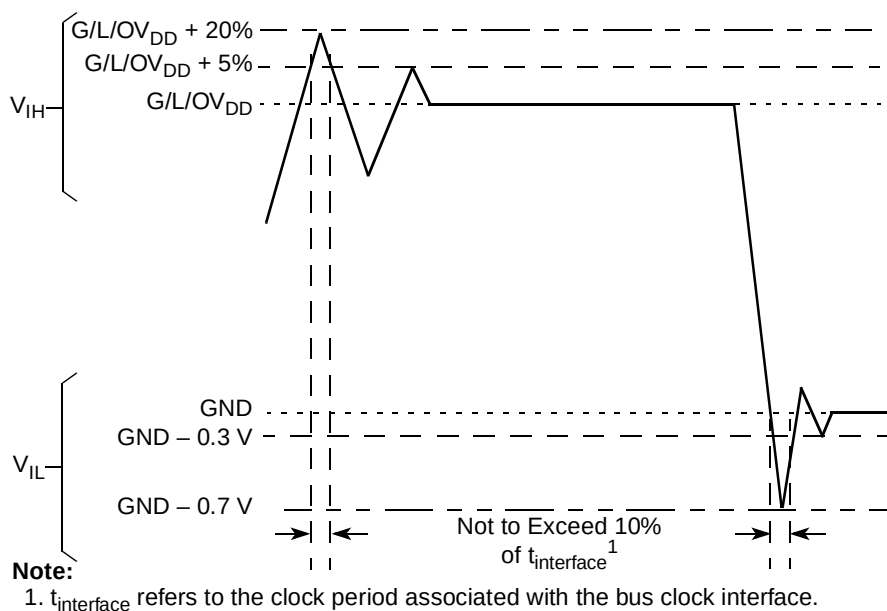

Figure 2. Overshoot/Undershoot Voltage for GV_{DD}/OV_{DD}/LV_{DD}
- ⁵ (M,L,O) V_{IN} and MV_{REF} may overshoot/undershoot to a voltage and for a maximum duration as shown in Figure 2.
Figure 2 shows the undershoot and overshoot voltages at the interfaces of the MPC8347E.